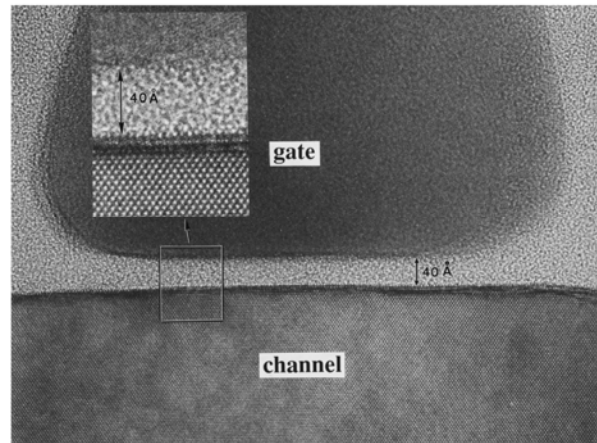

Figure 6.33
- S & B Fig. 6.33 illustrates what's going on.